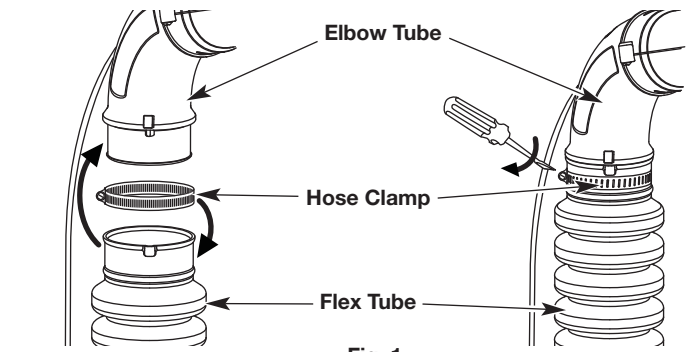

Fig. 1
1. Place a hose clamp around one end of the flex tube (Fig. 1).
2. Slide the flex tube and hose clamp onto the elbow tube (Fig. 1).
3. Tighten the screw on the hose clamp with a flat-head screwdriver (Fig. 1).